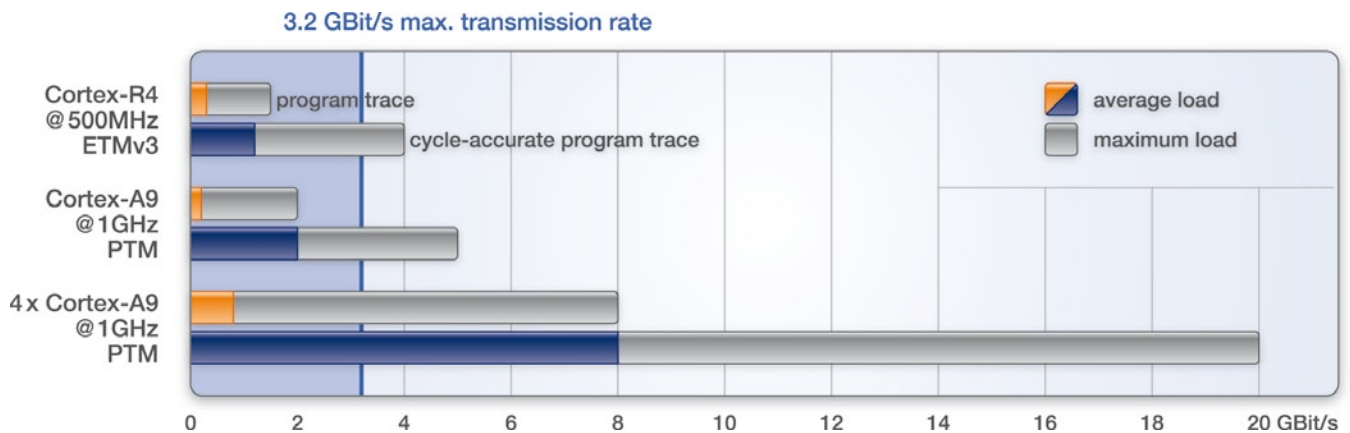

Fig. 10: A transmission rate of 3.2 GBit/s is usually enough to transfer program trace information to the host while it is being recorded.
2. For a realistic estimate of the necessary data rate, you just have to consider the average load at the trace port. Peak loads at the trace port are intercepted by PowerTraceII, which can be considered as a large FIFO (up to 4GB). Fig. 10 shows an overview of the average/maximum load at the trace port for Cortex cores. The application running on the Cortex core ultimately determines the actual load.